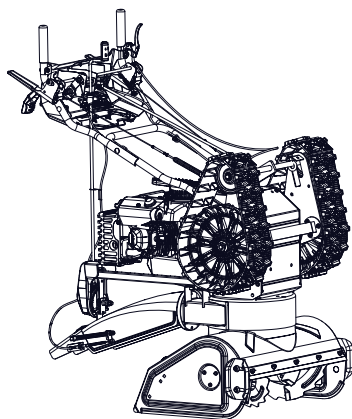

Figure 12
See Figure 12.
1. Place unit in service position. See Figure 12.